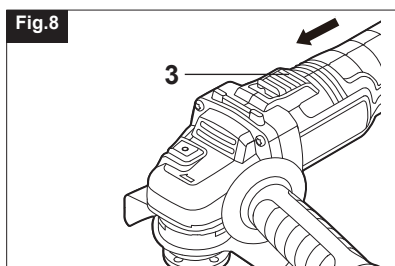

Fig.8
To start the power tool, press the rear of the on/off switch (3) and push forwards (Fig. 8).